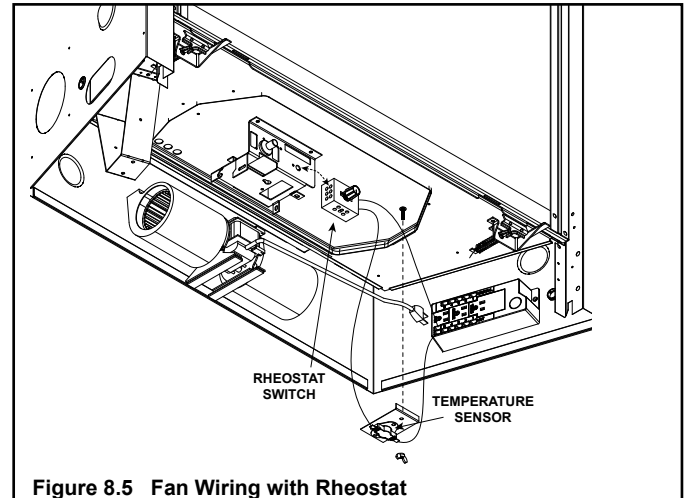

Figure 8.5 Fan Wiring with Rheostat
If the fan will not be installed for operation with a wall switch, the temperature sensor will need to be installed. See Figure 8.5 for location of the temperature sensor and fan control.
- Install rheostat in location as seen in Figure 8.5.